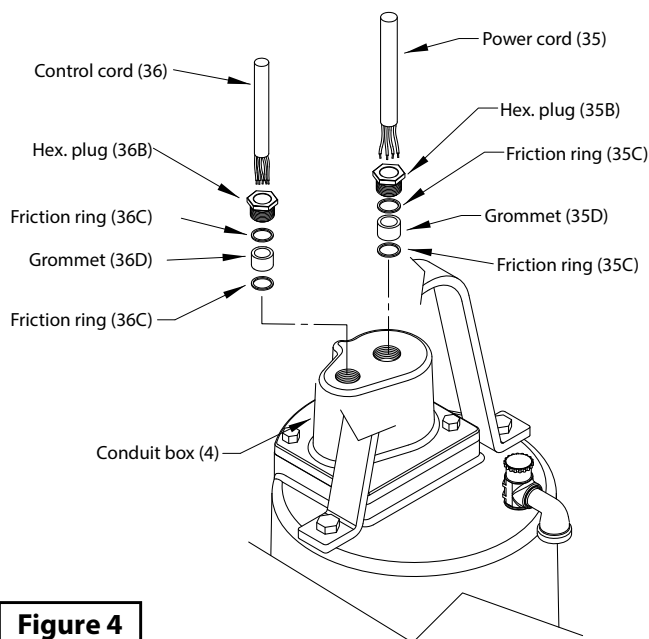

Figure 4
Conduit Box Assembly - Check power (35) and control cables (36) for cracks or damage and replace complete conduit box (4) if required. (See Figure 4) Bring motor wires through opening in top of motor housing (3), check sleeving and replace if damaged. Position square ring (5) in conduit box (4) and reconnect leads using connectors and insulators. See Figures 5, for wiring schematics.
Remove gland nuts (35B) and (36B), friction rings (35C) and (36C), and grommets (35D) and (36D) from conduit box (4), inspect and replace if damaged (See Figure 4). Reassemble by inserting one friction ring, grommet, one more friction ring and gland nut into conduit box. Torque gland nuts to 15 ft/lbs to prevent leakage.